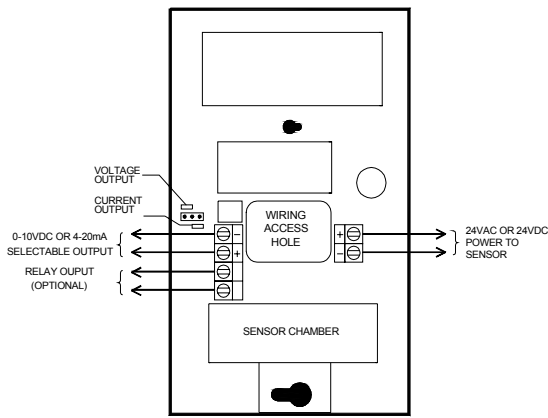

FIG. 2 : AIR 2000 TYPICAL WIRING DIAGRAM
- (1) AIR 2000- Locate a flat mounting surface in the area where the presence of carbon dioxide is to be monitored or controlled. Locate away from direct fresh air intakes where a temporary clearing of CO₂ concentration may occur and mount approximately 5 feet above the floor.
- (2) The AIR 2000 Space Sensor and the AIR 2000DM Duct Sensor are designed to be mounted on a standard single gang electrical outlet box, or directly onto drywall.
- (3) The sensor analog output terminals (0 to 10V or 4 to 20 mA) are shown in fig. 2 as the top two terminals on the left of the wiring access hole. Polarity is shown as the top terminal being negative (-) and the second terminal being positive (+). The optional relay contact terminals are the lower two terminals located on the left side. The power input terminals on the sensor are the two located to the right of the wiring access hole. Power can be either 24VAC or 24VDC. If 24VAC is used with multiple sensors, make sure "H" goes to (+) terminal and "N" goes to (-) terminal on all sensors. If 24VDC is to be used, ensure correct polarity. TOXALERT recommends the use of #18 gauge wire for wiring the sensor.
- 2) Note whether the shorting block at jumper JP5 is covering both pins or only a single pin, then borrow the shorting block and slide it over the two pins of jumper JP4 (see figure 2).